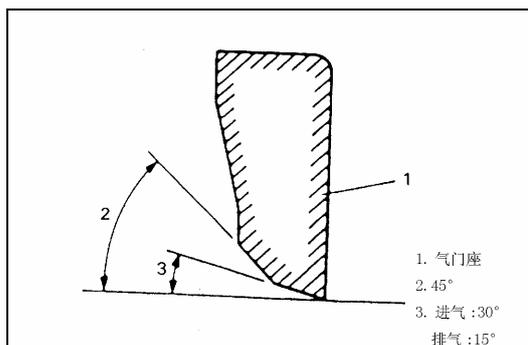

Fig. 4-167
2) intake valve seat: according to the repairing sequence of exhaust valve seat to repair .as shown in fig.4-167. But notice that the first skiving angle should be 30° .